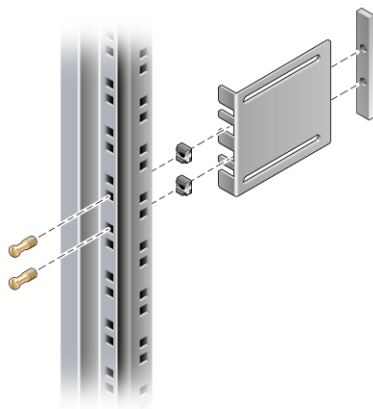

FIGURE 3-10 Securing the Brackets to the Rack
7. Lift each short bracket to the desired position at the *front* of the rack and attach a short bracket to each of the front rack uprights (FIGURE 3-10).
Use two of the brass M6 collar screws and M6 cage nuts (if required), and one threaded strip, to secure each bracket (FIGURE 3-10).
8. Lift each long bracket to the desired position at the *rear* of the rack and attach a long bracket to each of the rear rack uprights (FIGURE 3-10).